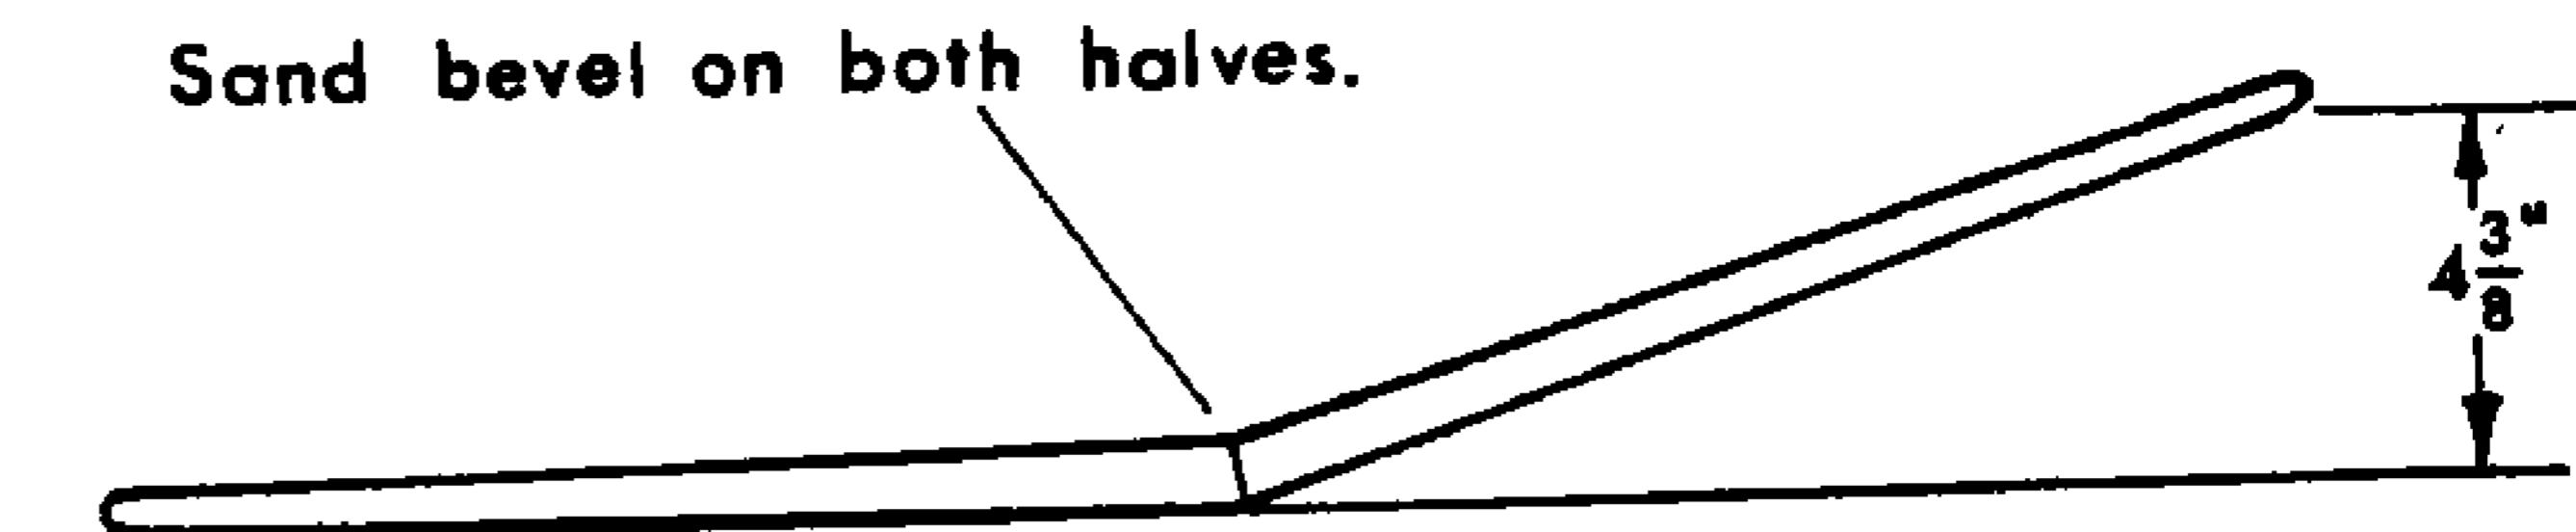

Fig. 18
22. Build other half of stabilizer and join stabs with 5-minute epoxy using anhedral dimension shown in figure 18. Wrap center section of stab with 1" wide strip of 6 oz. fiberglas cloth and squeegee slow-drying epoxy through to wood. Lay stab aside to cure.